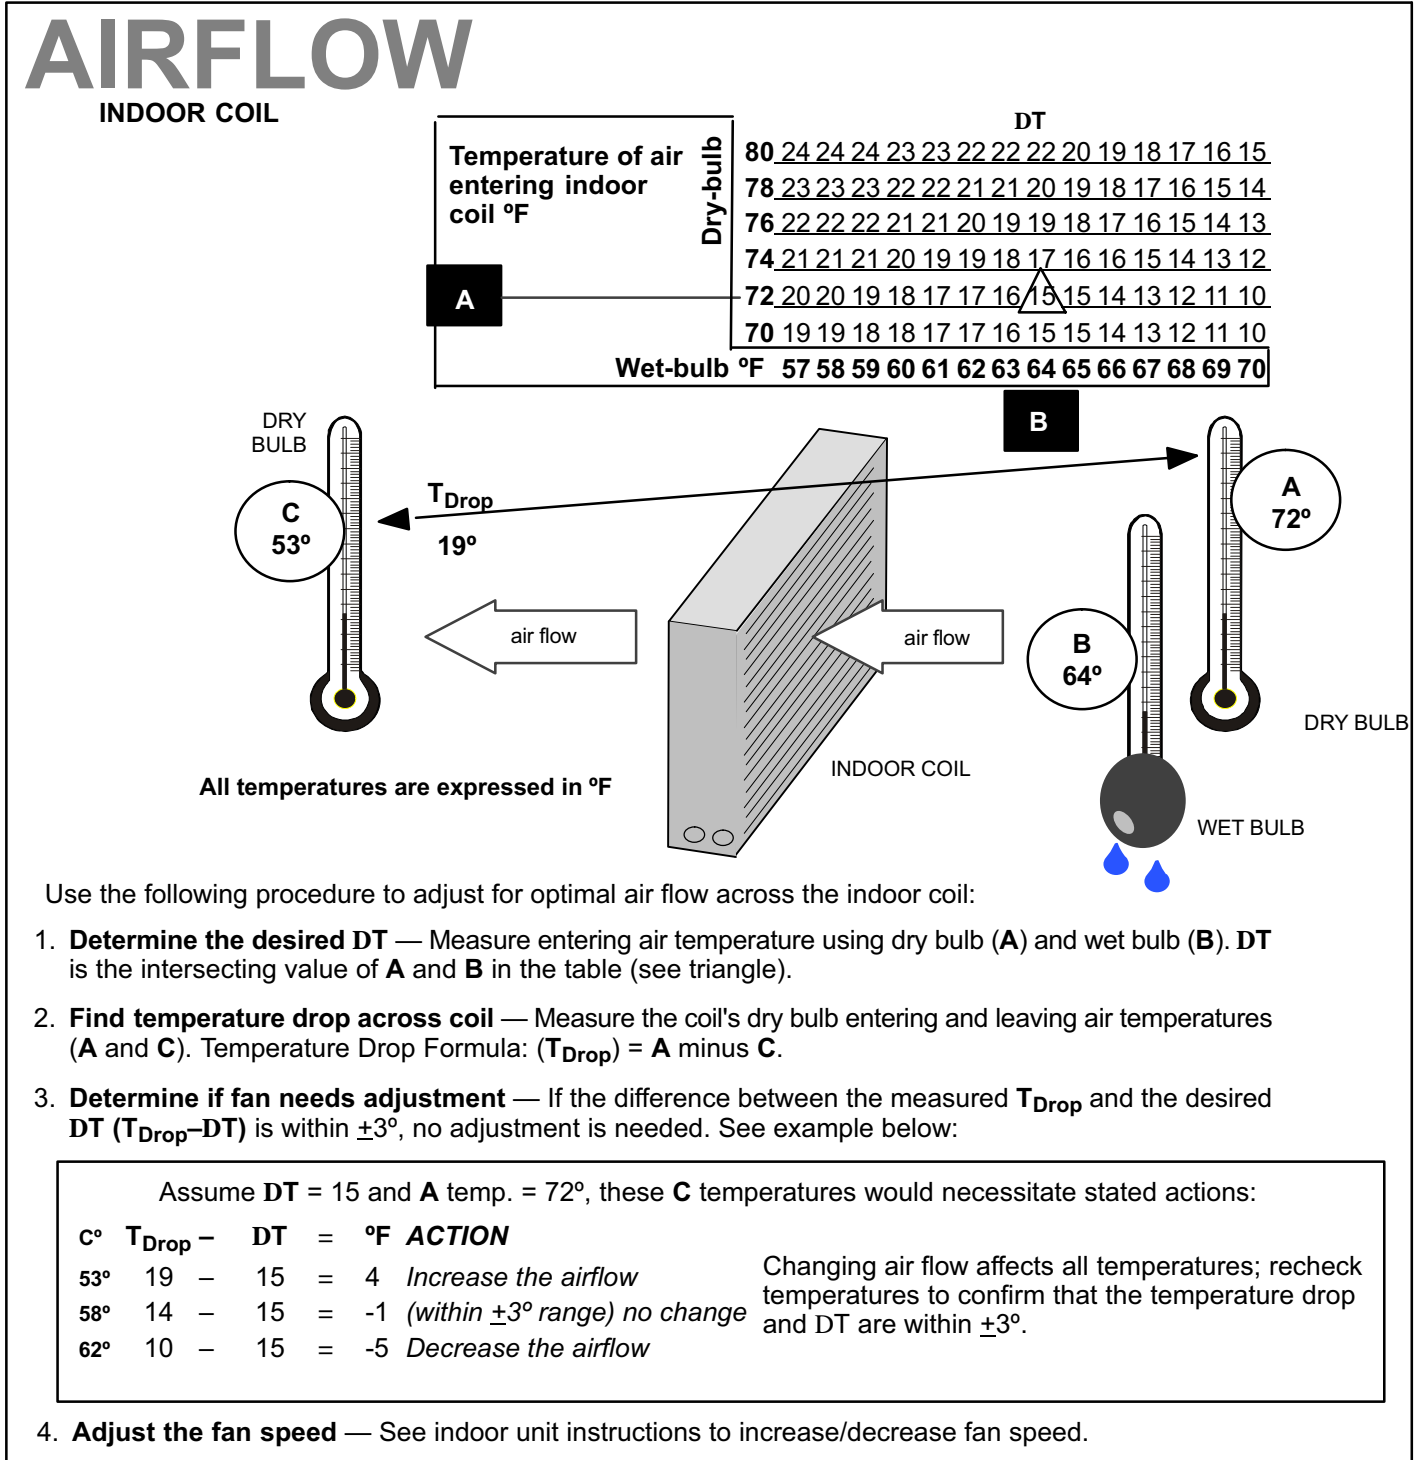

Figure 19. Checking Indoor Airflow over Evaporator Coil using Delta-T Chart
This system uses HFC-410A refrigerant which operates at much higher pressures than HCFC-22. The pre-installed liquid line filter drier is approved for use with HFC-410A only. Do not replace it with components designed for use with HCFC-22. This unit is NOT approved for use with coils which use capillary tubes or fixed orifices as a refrigerant metering device. Check airflow using the Delta-T (DT) process using the illustration in figure 19.